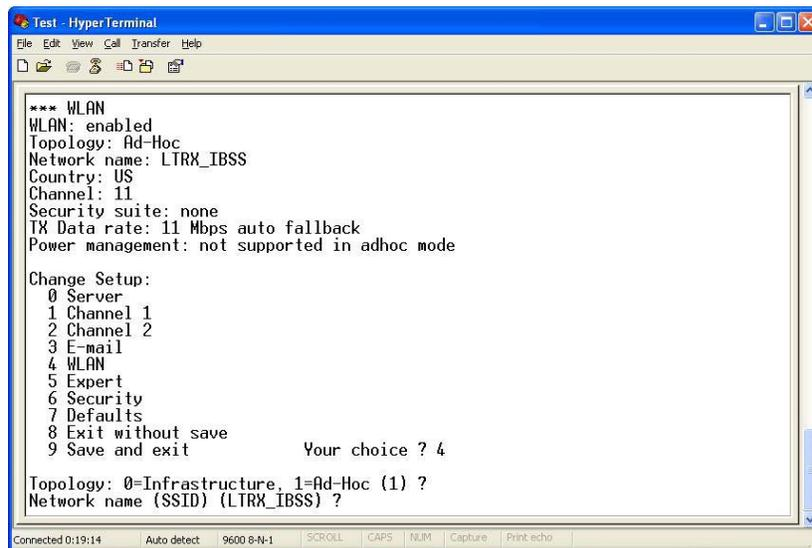

Figure 13. “Network Name” Screen
- The next menu choice is *Network Name (SSID)* as shown in Figure 13. Enter your desired wireless network name and press Enter. This identifies the network the wireless option will connect to.